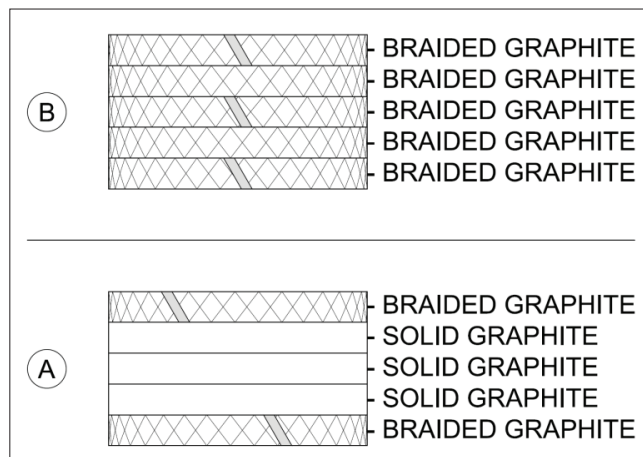
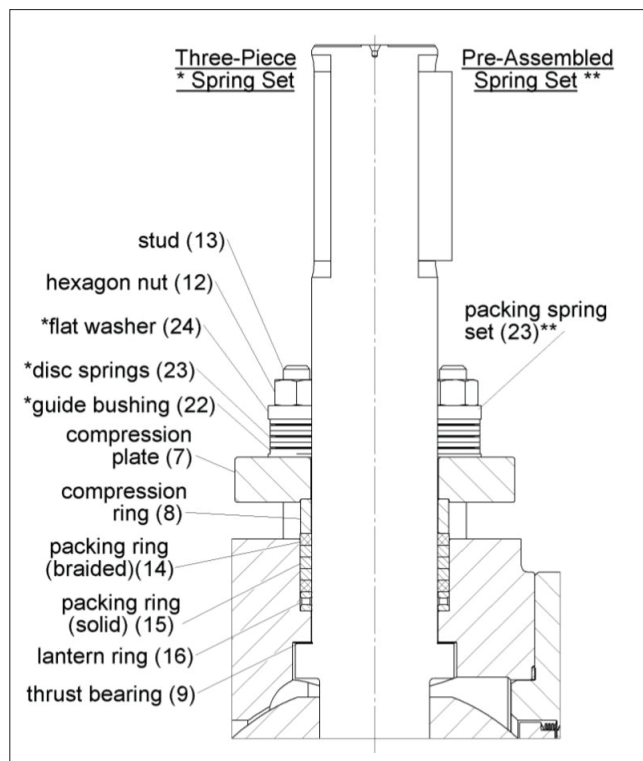

Fig. 10 Packing Constructions
Fig. 11 Packing Detail
- Remove the key (21).
- Remove the hexagon nuts (12), disc spring set (22, 23, 24), compression plate (7), and compression ring (8). (Some valves may have pre-assembled spring set (23), see Figure 11).
- Remove the packing rings (14, 15) from around the shaft using a packing removal tool. Make sure that there is no damage to the shaft or the counterbore. Please note that the thrust bearings (9) may come off as you remove the packing. They should be placed back in position before installing the new packing.
- Remove the lantern ring (16), clean it along with the packing ring counterbore, then replace it.
- There are two general packing constructions available, identify which is used (A or B, Fig. 10).
- Place the new packing rings (14, 15) over the shaft (3). Do not damage packing rings with the shaft keyway. If installing an all woven packing, make sure that the seams are staggered at least 90° apart. This should create two 180° zones between adjacent seals with only one seam each. (See Figure 10).
- The compression ring (8) and compression plate (7) may now be used for pushing the rings into the counterbore. (See Figure 11).
- Place the disc spring set (22, 23, 24) on the compression studs. Tighten the nuts (12) to the torque described by Equation 1. (Some valves may have pre-assembled spring set (23), see Figure 11).
- Lock the nuts (12) with locking compound e.g. Loctite 221. (See Figure 11).
- Remove the shaft (3) and thrust bearings (9) by sliding the shaft down through the stuffing box and out of the body through the flow bore on MA series coker valves or through the bottom plug hole on S7 series coker valves.
- Carefully remove the packing rings (14, 15) and lantern ring (16) from the counterbore using a packing removal tool.
- Remove the remaining seat (5) and E-ring (6).